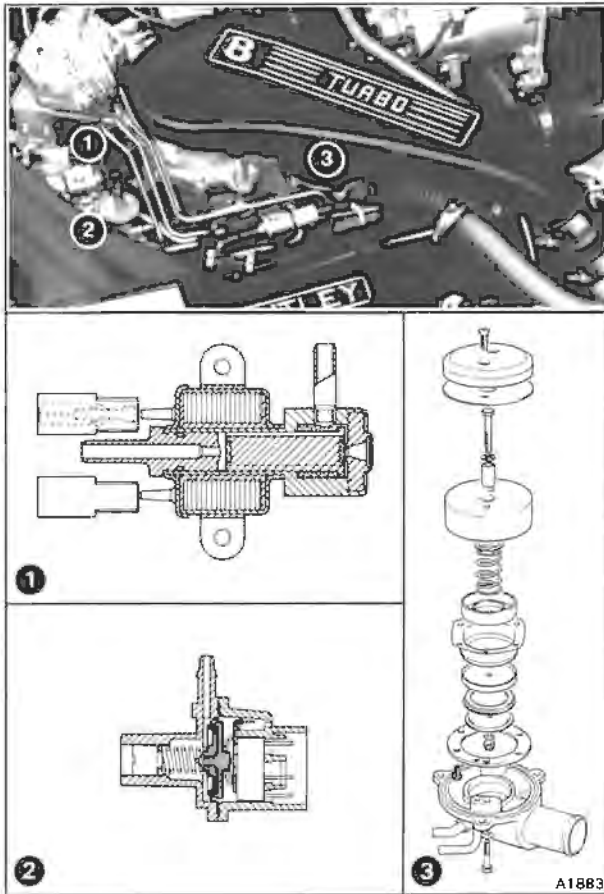

Fig. D2-5 Dump valve and control system
**Dump valve** (see fig. D2-5)